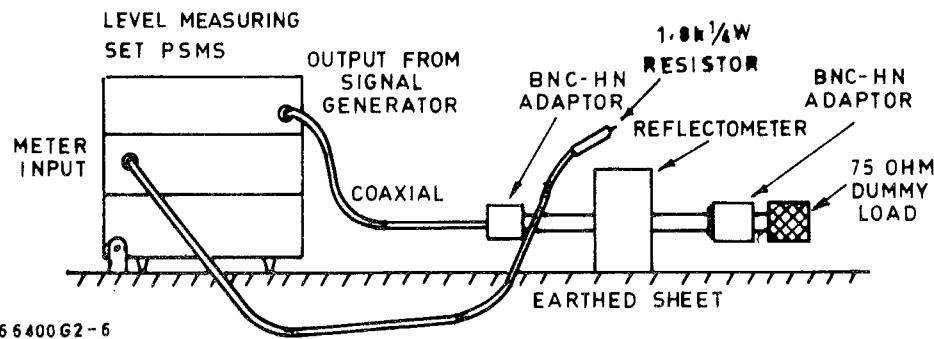

Figure 5
2. Connect output of the signal generator to the coaxial input of the reflectometer via the adaptor as shown in Reflectometer Calibration Set-up, Figure 5 following page.